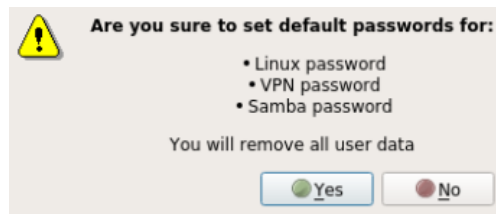

Figure 48 Clear ICOS Data Message
- 4 Click **Clear Data**: The message shown in Figure 48 appears.